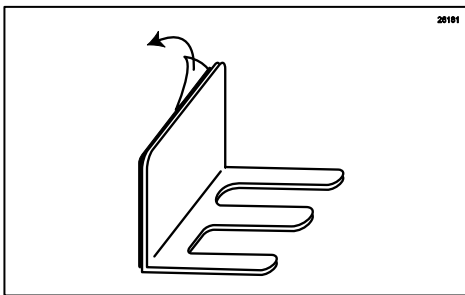

Figure 145
- Remove the protective adhesive tape from the adhesive strip on the Bracket. (See Figure 145.)